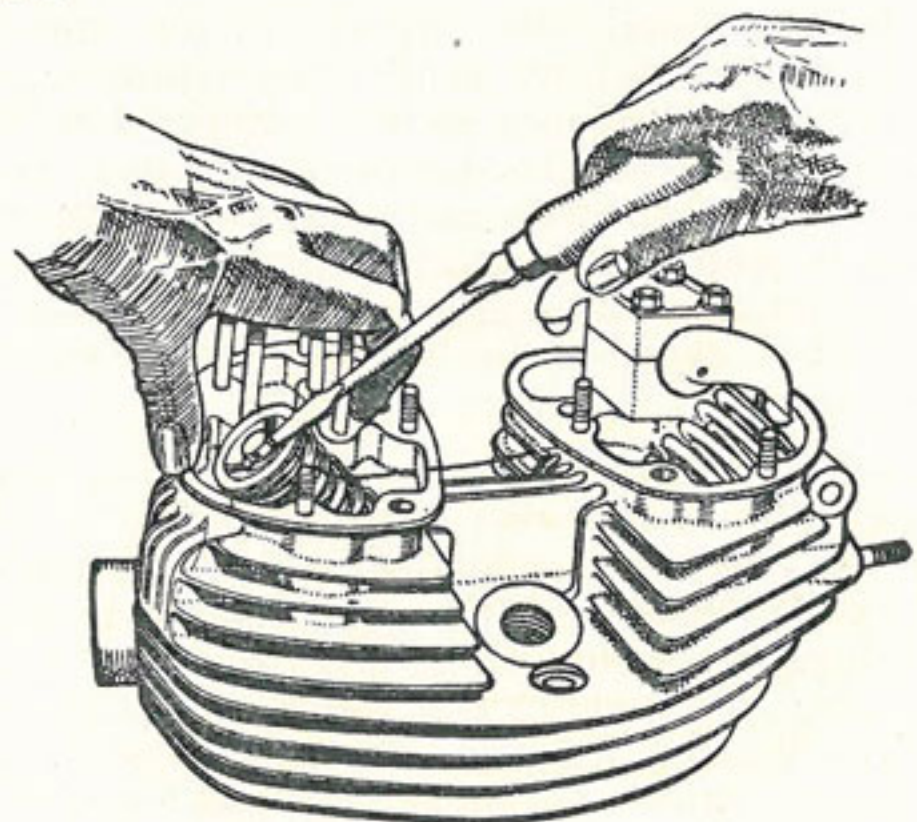
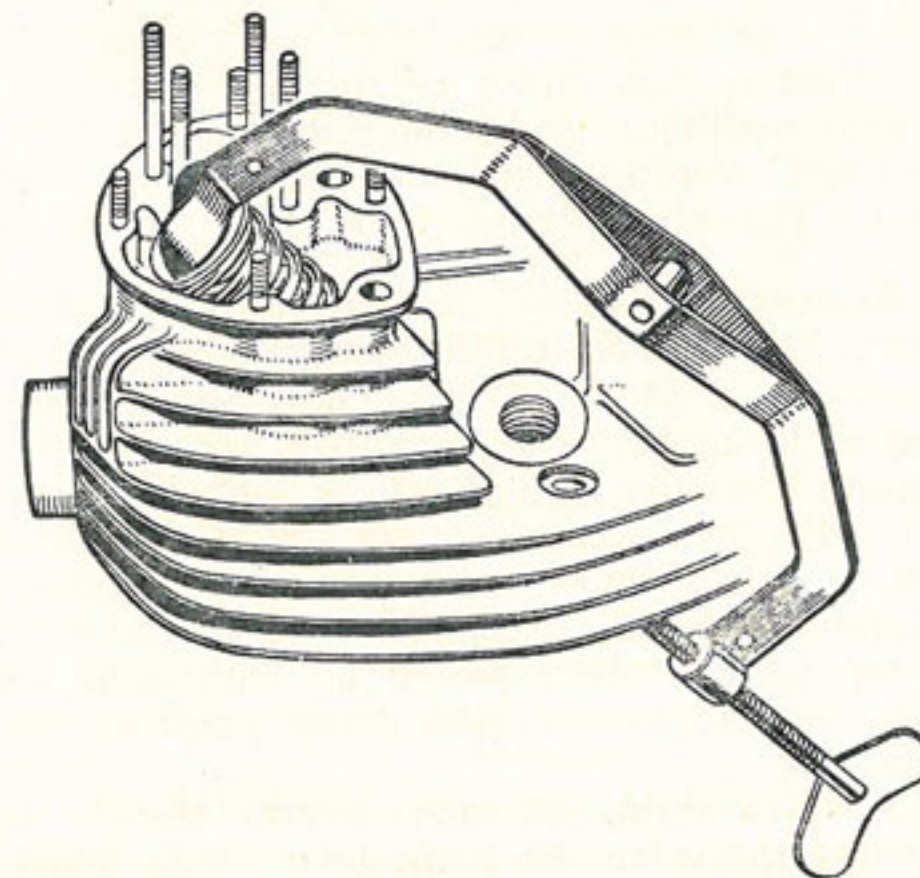

Fig. 3
Fig. 4
- 23 Removal of Valves.** To remove the valves from the cylinder head, first lift off the hardened end caps from the valve stems, if fitted. If these have stuck, they can be removed by means of a screwdriver (see Fig. 3). Then compress the valve springs with a suitable compressor, lift out the split conical collars and release the springs, when the valves can be withdrawn. Fig. 4 shows a Terry compressor in use. Keep the split conical collars and the top spring collars paired up with their respective valves and replace in the same positions when re-assembling.
A valve spring compressor may also be used for removing the valves from the later "500 Bullet" head, which is of different design to that shown in Fig. 4.